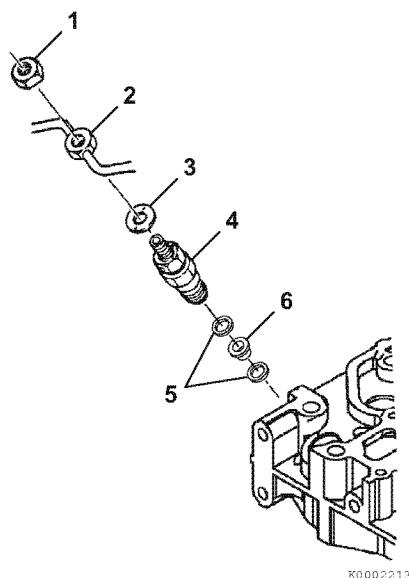

Figure 7-46
1. Insert the nozzle gaskets (5, **Figure 7-46**) and nozzle protector (6, **Figure 7-46**) in the cylinder head.
2. Reinstall the fuel injector (4, **Figure 7-46**) in the cylinder head and tighten to specification.
3. Reinstall new copper washers (3, **Figure 7-46**), high-pressure and return fuel lines (2, **Figure 7-46**). *See Installation of High-Pressure Fuel Injection Lines on page 7-13 and Installation of Fuel Return Line on page 7-14.* Tighten fuel line nuts (1, **Figure 7-46**) to specifications.